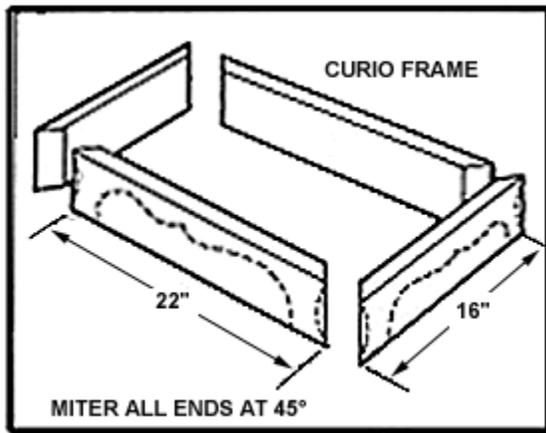

Figure 4. Mitering Parts M and N
2. Miter each of the ends of parts M (Base Front/Back) and N (Base Sides) at 45 degrees (see **Figure 4**) to the correct length.